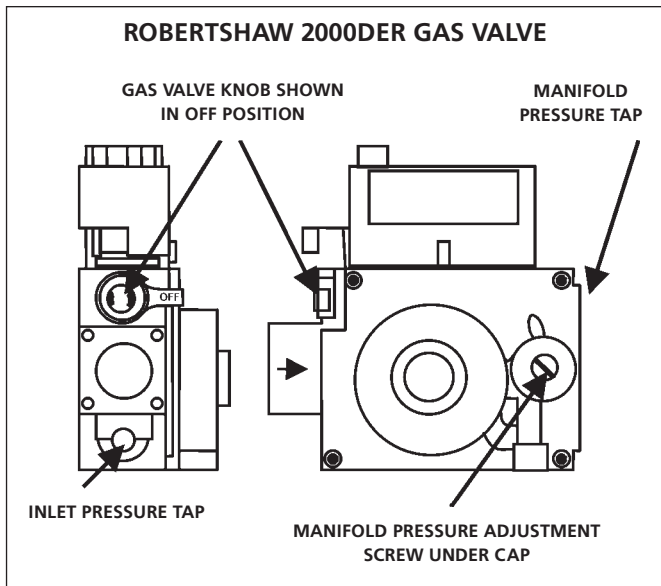

FIGURE 10
GAS VALVE OPERATION FOR ROBERTSHAW 2000DER SERIES VALVE (FIGURE 10)
5. Depress knob on gas valve; knob will snap to OFF. (See Figure 10)
- After line pressure has been checked and adjusted, check manifold pressure. Correct manifold pressure is shown on the unit rating plate. See **figure 10** for gas pressure adjustment screw location. A natural gas to LP/propane gas changeover kit is required to convert unit. Refer to installation instructions provided with changeover kit for conversion procedure.